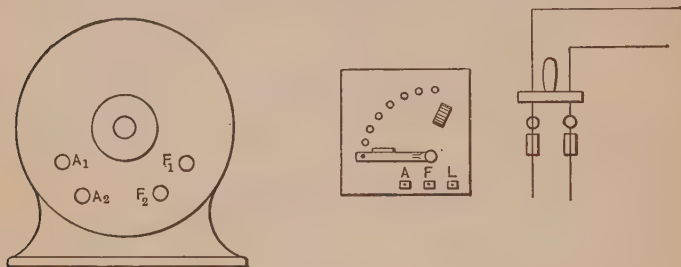

FIG. 146.
**Prob. 15.** Connect the shunt motor, Fig. 146, to the line through the starting box.